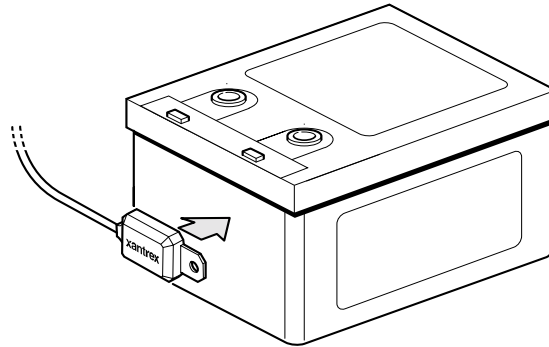

Figure 13 BTS Mounted on the Battery Case
See Figure 13.
5. Press the sensor firmly against the clean side of the battery to fix it in place, as shown in Figure 13.